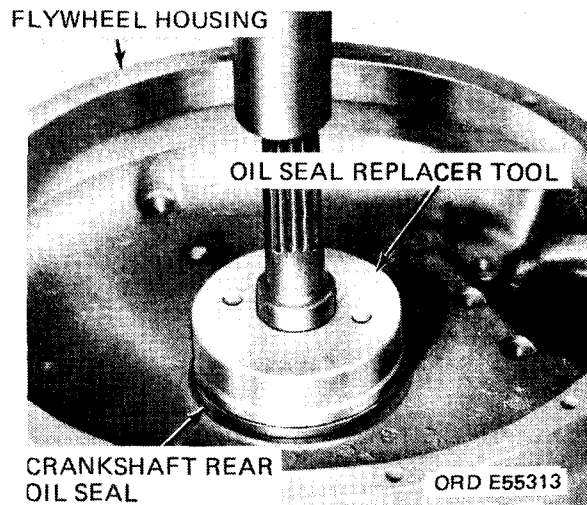

Figure 3-103. Installing oil seal in flywheel housing.
(1) Install new oil seal in the flywheel housing (fig. 3-103). Seal should be flush with outer face of housing bore.